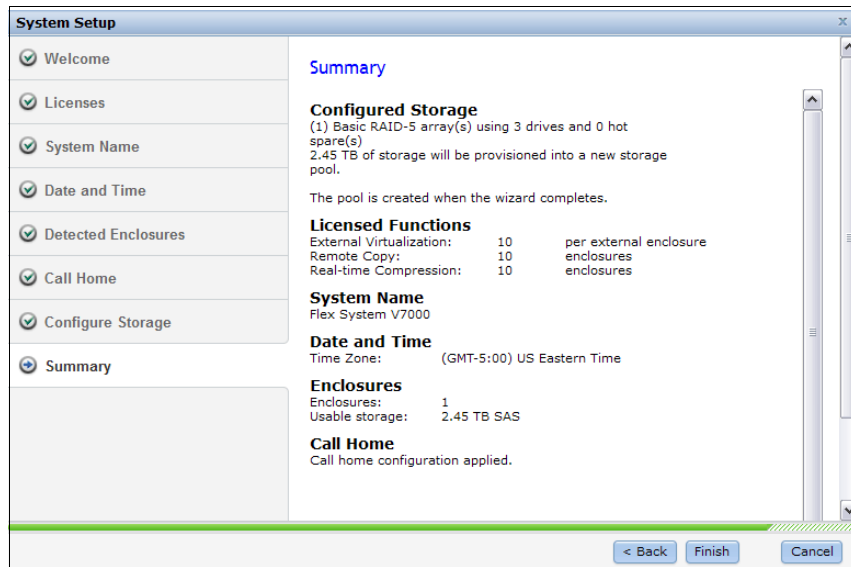

Figure 4-26 Summary of automatically configured storage
**Note:** Select **No** if you want to configure the storage manually. Click **Next** to see the Summary as shown in Figure 4-26.